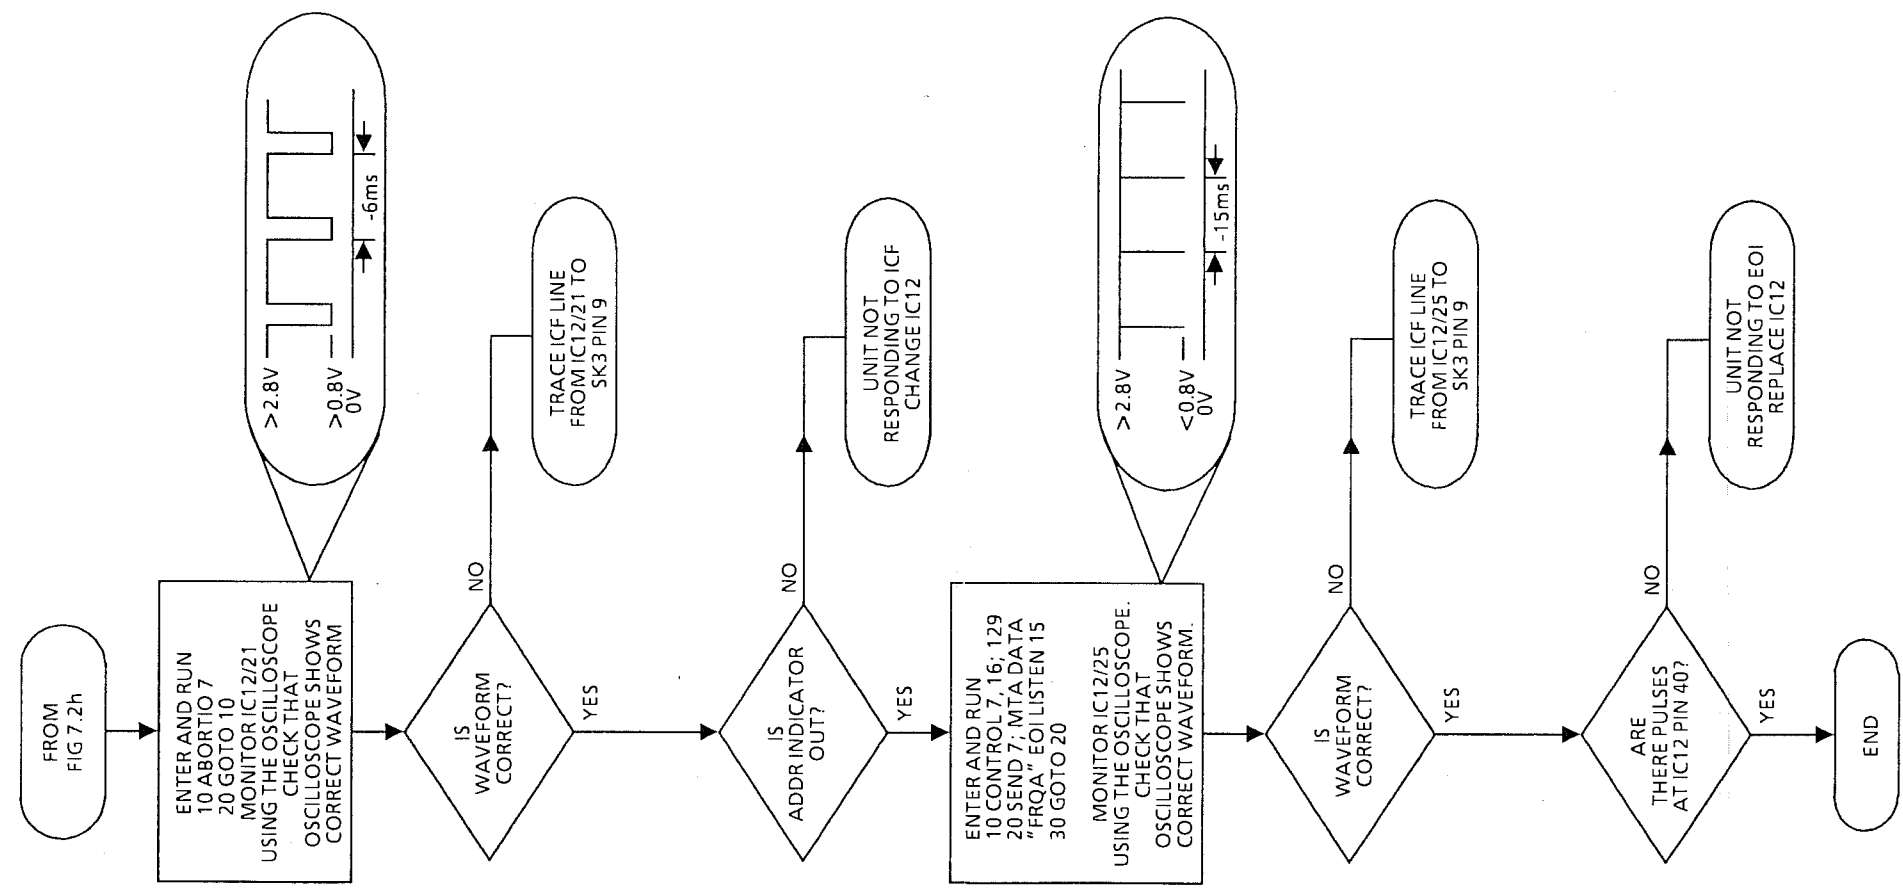
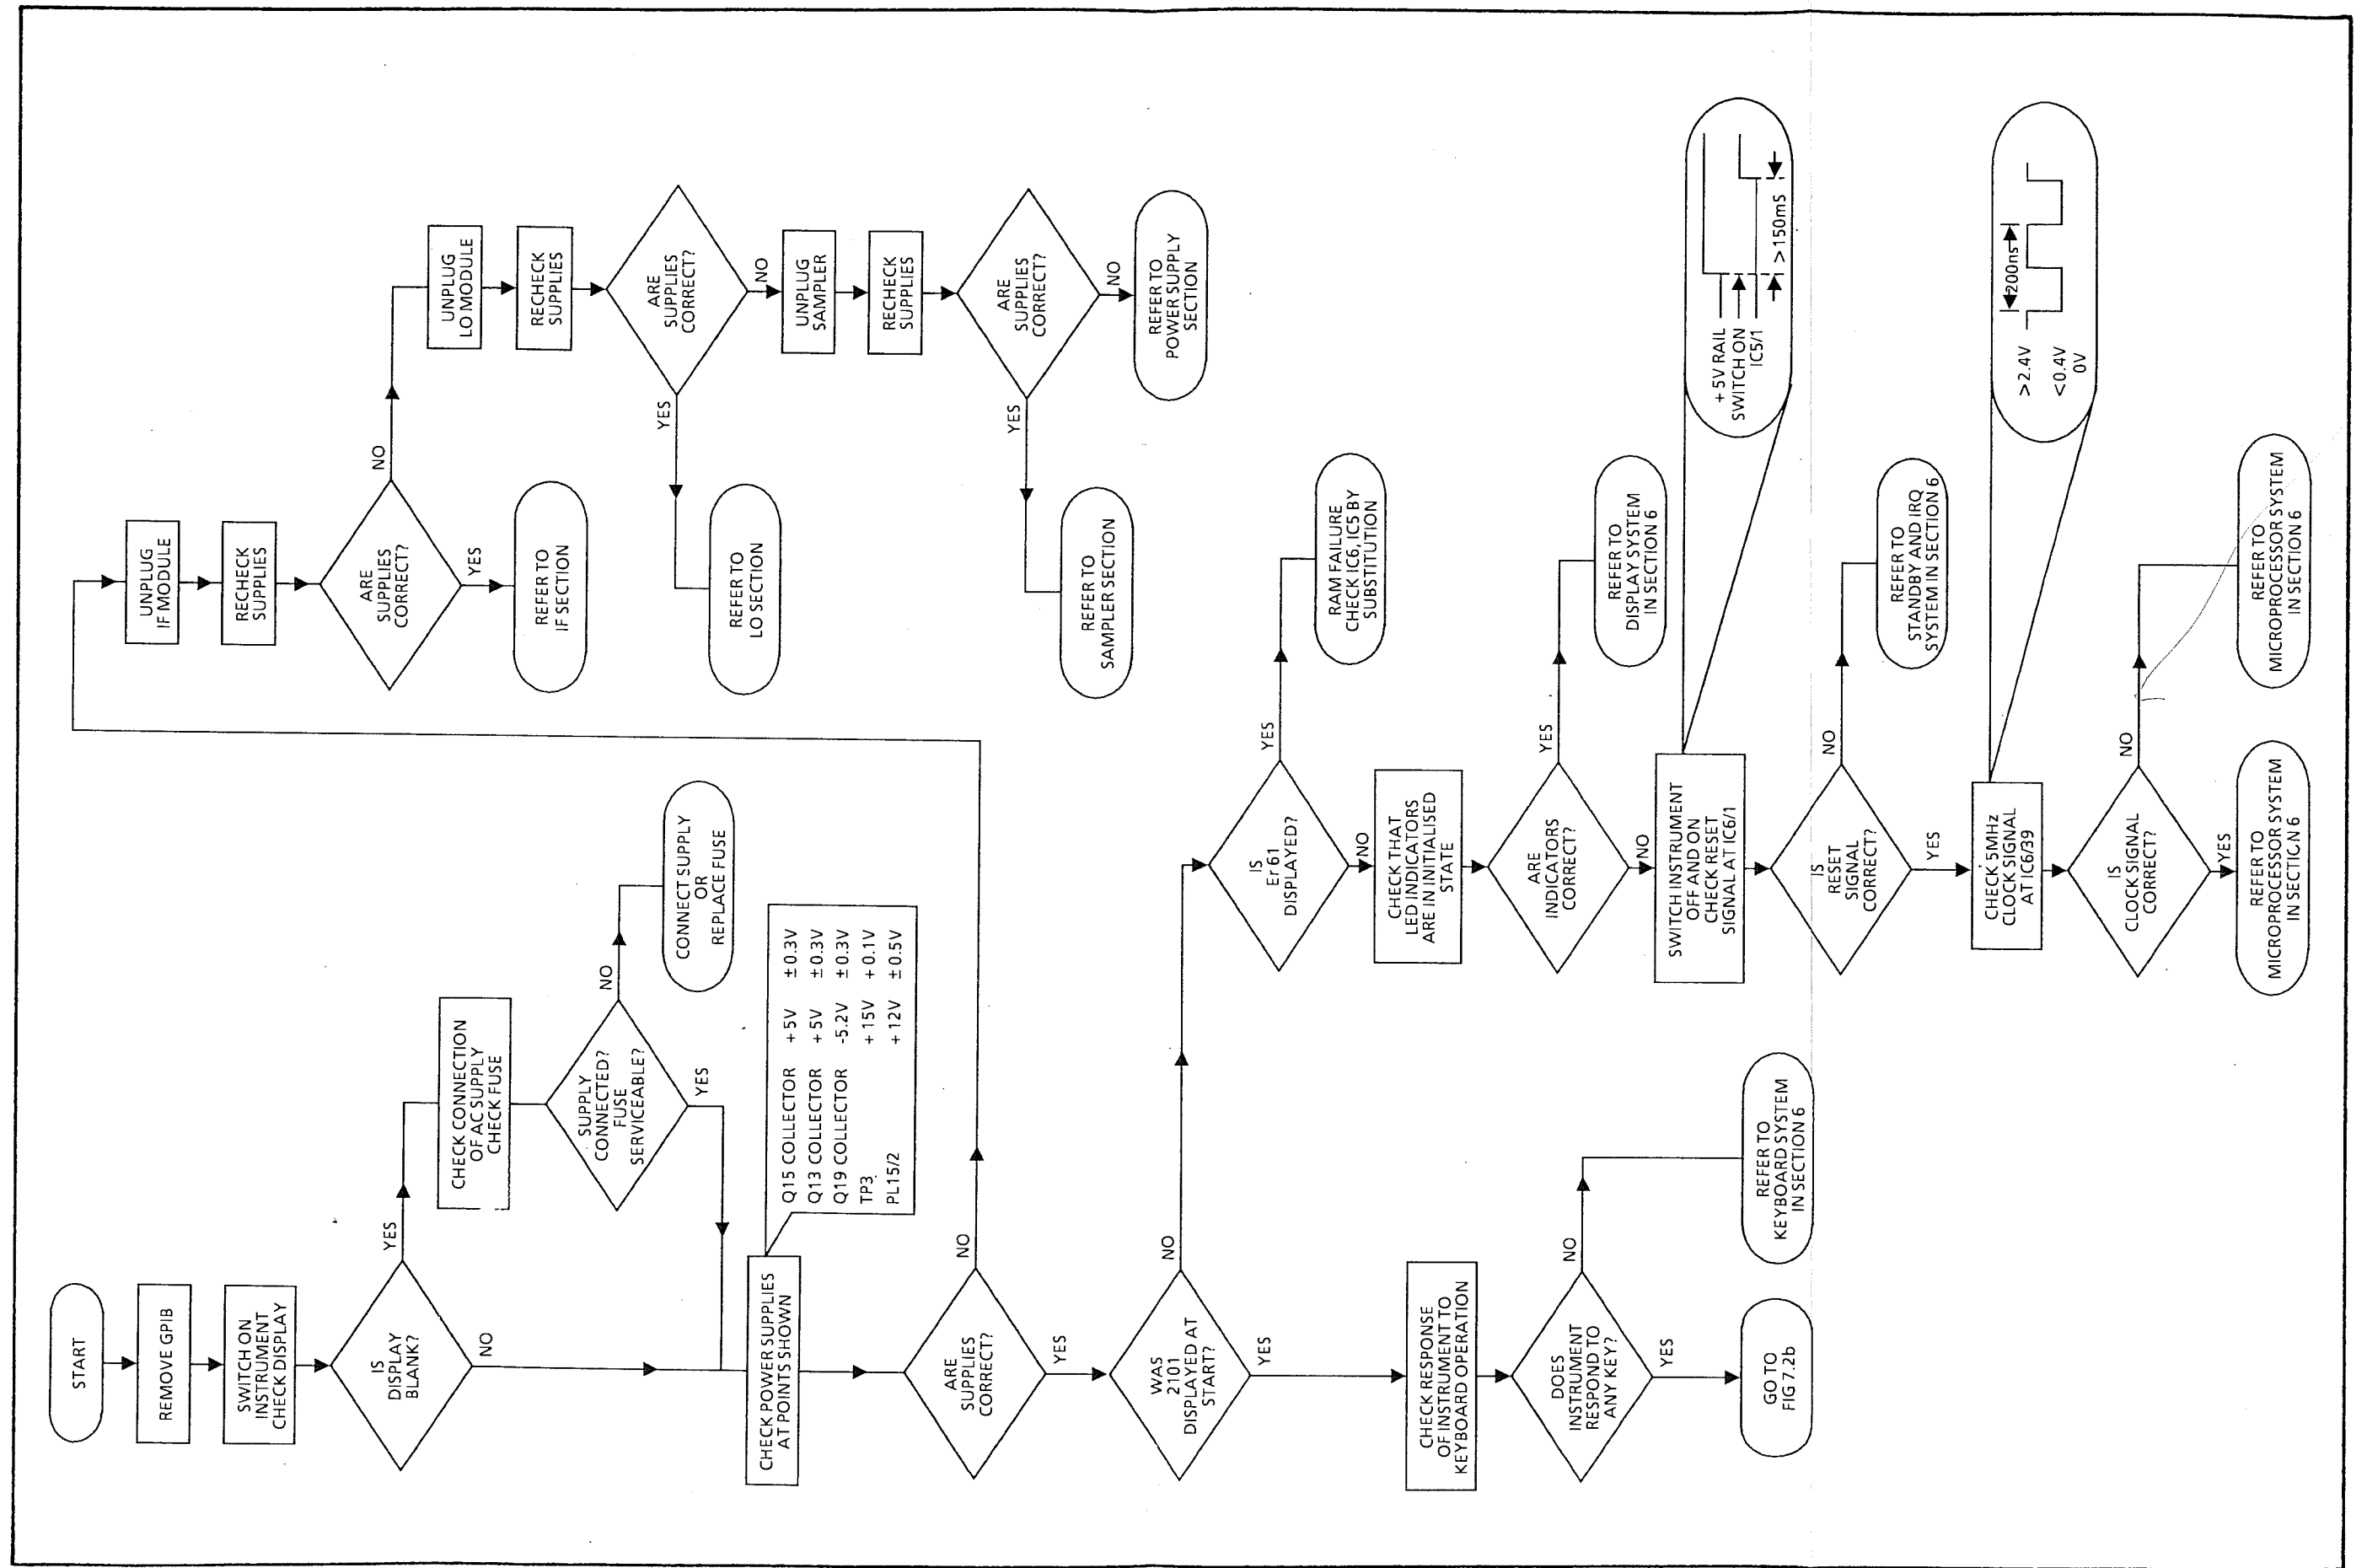

Fig. 7.2i Fault Finding Flowchart GPIB - Part 3
Fig. 7.2a Fault Finding Flowchart - Part 1
- 37 A guide to fault location is given in the flow charts of Fig. 7.2a to Fig. 7.2i. The charts provide a logical procedure for localizing the fault to an area of the circuit. When using the charts it is essential to begin at the start point in Fig. 7.2a and act accordingly to the results of each decision box met in turn. Starting part way through any chart is unlikely to lead to satisfactory fault location.